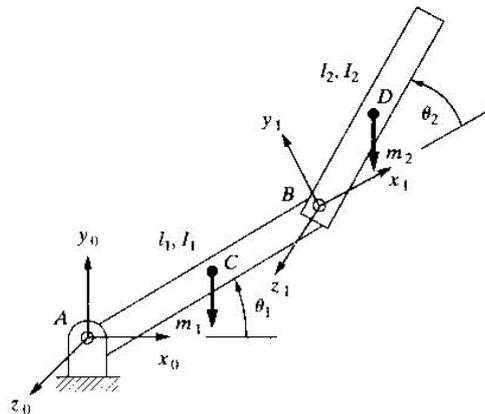

Figure-1
b) Using Lagrangian method, derive the equation of motion for the two degree- of- freedom robot arm as shown in Figure-1. The centre of mass for each link is at centre of the link and the moments of inertia are  $I_1$  and  $I_2$ .